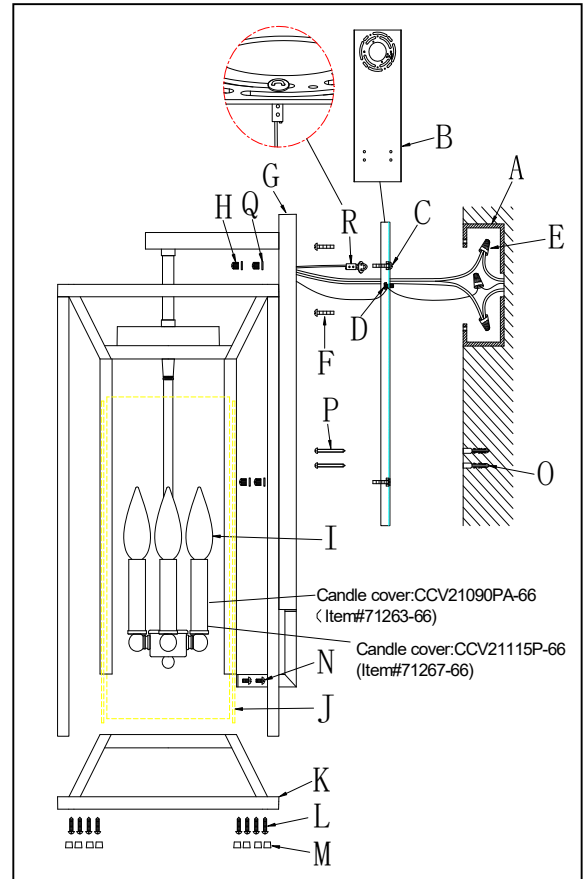

Fig.2
CONNECTING THE WIRES (Fig. 2)
6. Connect the electrical wires as shown in Fig 2. with connectors (E), making sure that all wire connectors are secured. If your outlet box has a ground wire (green or bare copper), connect the fixture's ground wire to it. Otherwise, connect the fixture's ground wire directly to the mounting plate (B) using the green screw (D) provided. After the wires are connected, carefully tuck them inside the outlet box.